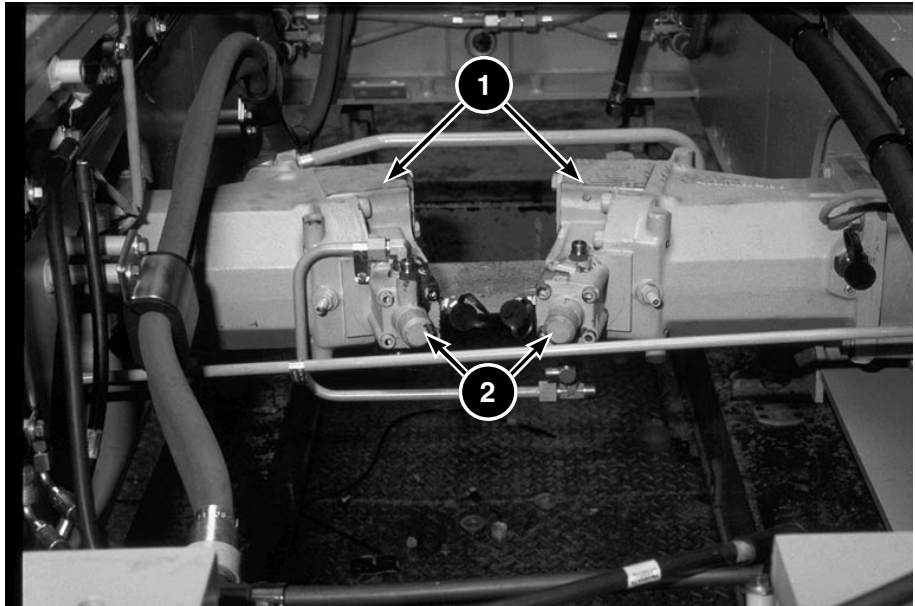

Fig. 3.5.8 953C Track Loader Hydrostatic Drive Motors
The variable displacement, link-type drive motors (1) shown in Figure 3.5.8 are located below the engine and mounted to the brake housing. Pilot pressure from the ECM manifold is directed to the pumps and motors. The pilot pressure controls the displacement of the pumps and the motors. Each motor has a drive motor control valve (2) that contains an actuator piston and servo valve.